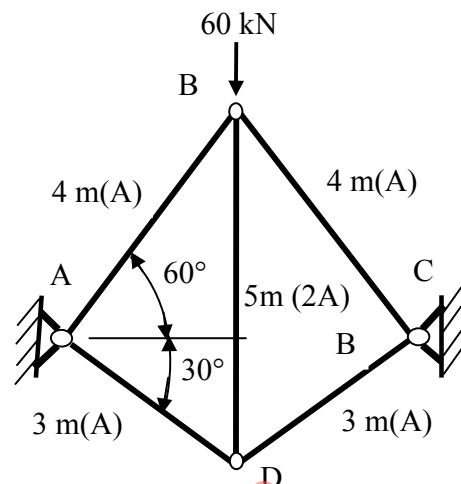

Fig.2 Q-3 OR & 5(a)
- Q-3 Analyse a truss shown in fig.2. to find displacements and member end forces using stiffness member approach and symmetry. The values in bracket shows cross sectional area of respective member. 14
- Q-5 (a) Write an input file using appropriate commands of a Professional Software you have learned, that can handle modeling and analysis of the truss shown in the fig.2. 04